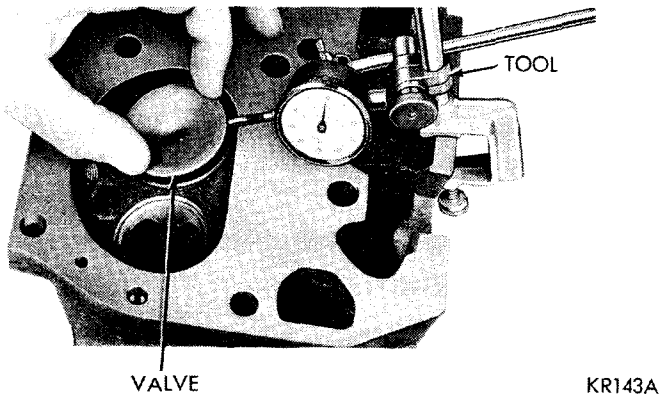

Fig. 7—Measuring Valve Guide Wear
- (5) Attach dial indicator Tool C-3339 to cylinder head and set it at right angle of the valve stem being measured (Fig. 7).
- (6) Move valve to and from indicator. The total dial indicator reading should not exceed .016 inch on intake valves and .018 inch on exhaust valves.
- (7) Replace guides if dial indicator reading is excessive or if stems are scuffed or scored. Use Tool C-3159 for Intake Valve Guide, for Exhaust Valve Guide use DD-915.